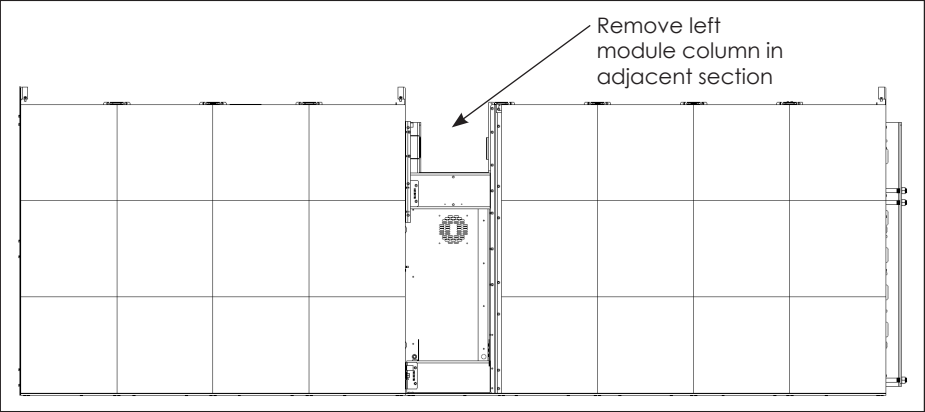

Figure 5: Remove Column to Access Interconnect Hardware
- 6. Lift the adjacent section into position on the wall channel pins. Remove the left module column to access the interconnect hardware. Refer to **Figure 5**.